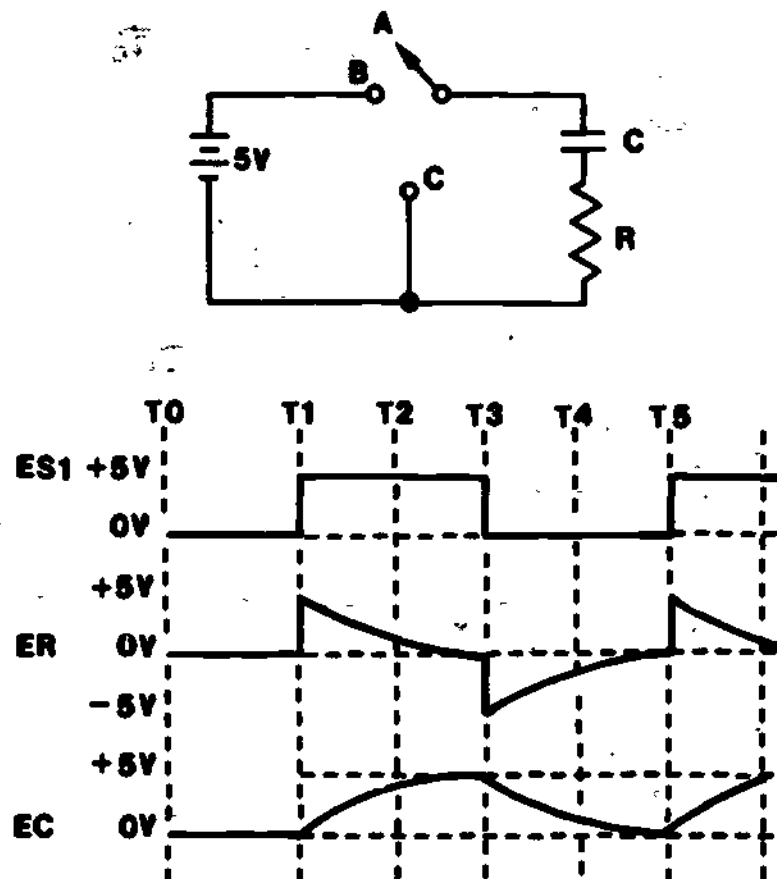

Figure 3
Let's review how time constants affect the voltage across each component in a series RC network. Look at the waveforms and schematic in Figure 3. At time (T_0) the switch (S1), is opened and there is no voltage on its moveable arm. Also, with (S1) open there is no current flow in the RC network. With no current flow we will not have any voltage dropped across the resistor (R) or the capacitor (C).
To take on a full charge, 5 time constants are required. To discharge completely it also takes 5 time constants. The longer the time constants, the more time it takes the capacitor to fully charge and discharge. In an integrator the output is taken across the capacitor. If the capacitor is allowed to charge for five time constants the output will look like waveform EC (Figure 3). A good sawtooth wave on the other hand should not be curved. What we do in an integrator is to make the RC time constant long (10 times) compared to the pulse width of the input signal.